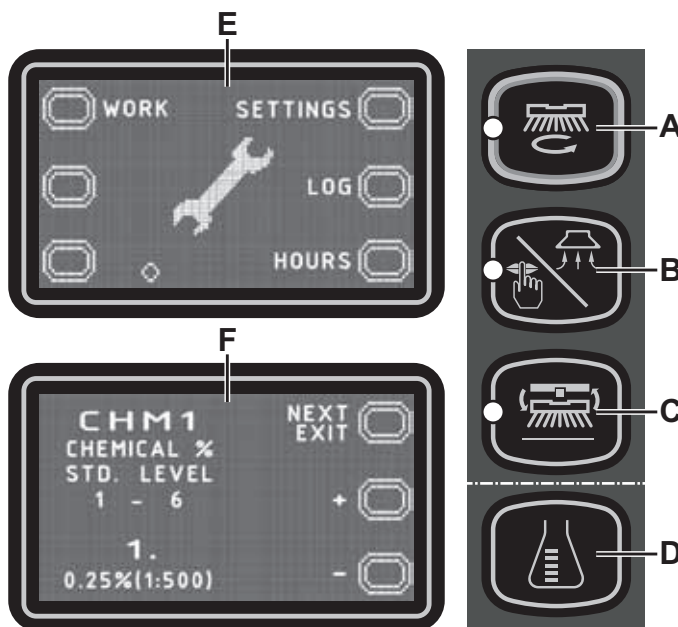

Figure 7
**Main Screen (E, Fig. 7)**
1. Insert the Super User (yellow) key in place of the operator (grey) key to access the main screen of the multifunction display (51).
2. Press push-button (A) to change the machine settings (see Machine Settings Screen section).
3. Press push-button (B) to check for any stored machine alarms (see Alarms Log Screen section).
4. Press push-button (C) to check the machine's hours of operation (see Operating Time Counter Screen section).
5. Press push-button (D) to exit service mode and return to operator mode.
To return to the main screen (E, Fig. 7), press push-button (A) repeatedly.
To return to the main screen (E, Fig. 7), press push-button (A).